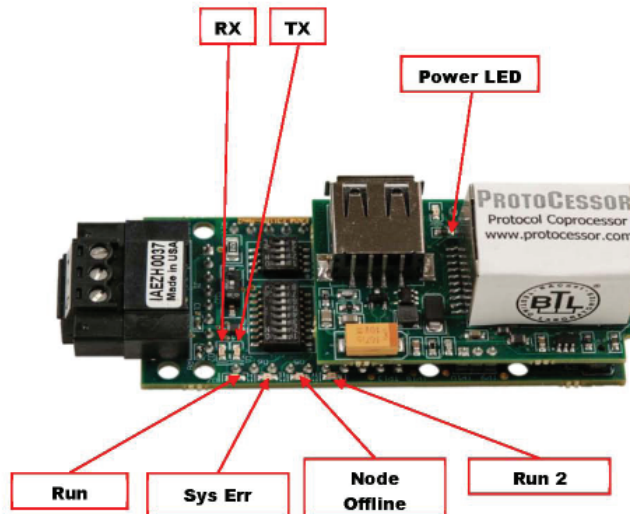

Figure 18: PT-Link II BACnet4® LED Locations
- Visual observations of LEDs on ProtoNode. (Figure 18, page 21)
Refer to **Figure 18** for LED locations.